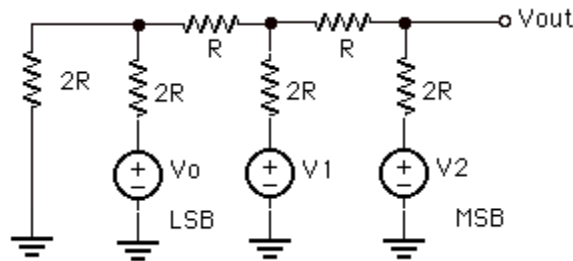
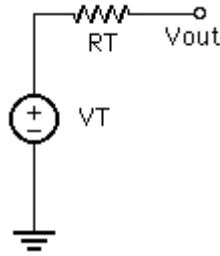

Fig. 2: Digital-to-analog converter circuit.
Fig. 3: R-2R DAC equivalent circuit.
As we saw in homework 6, one device that finds a lot of usage is a “digital-to-analog converter” (DAC) that allows us to translate signals from the digital representation we use in e.g. our computers to an analog quantity we can use in the “real” world. In this problem we'll look at one implementation of such a DAC that converts the digital codes into an analog voltage. The DAC design we'll be working with is shown below in Fig. 2, and is known as an “R-2R” DAC.
- It turns out that by combining the results of parts (a), (b), and (c), it can be shown that the circuit in Fig. 2 can be modeled as the circuit shown below in Fig. 3, where  $R_T = R$ , and  $V_T = V_2/2 + V_1/4 + V_0/8$ .